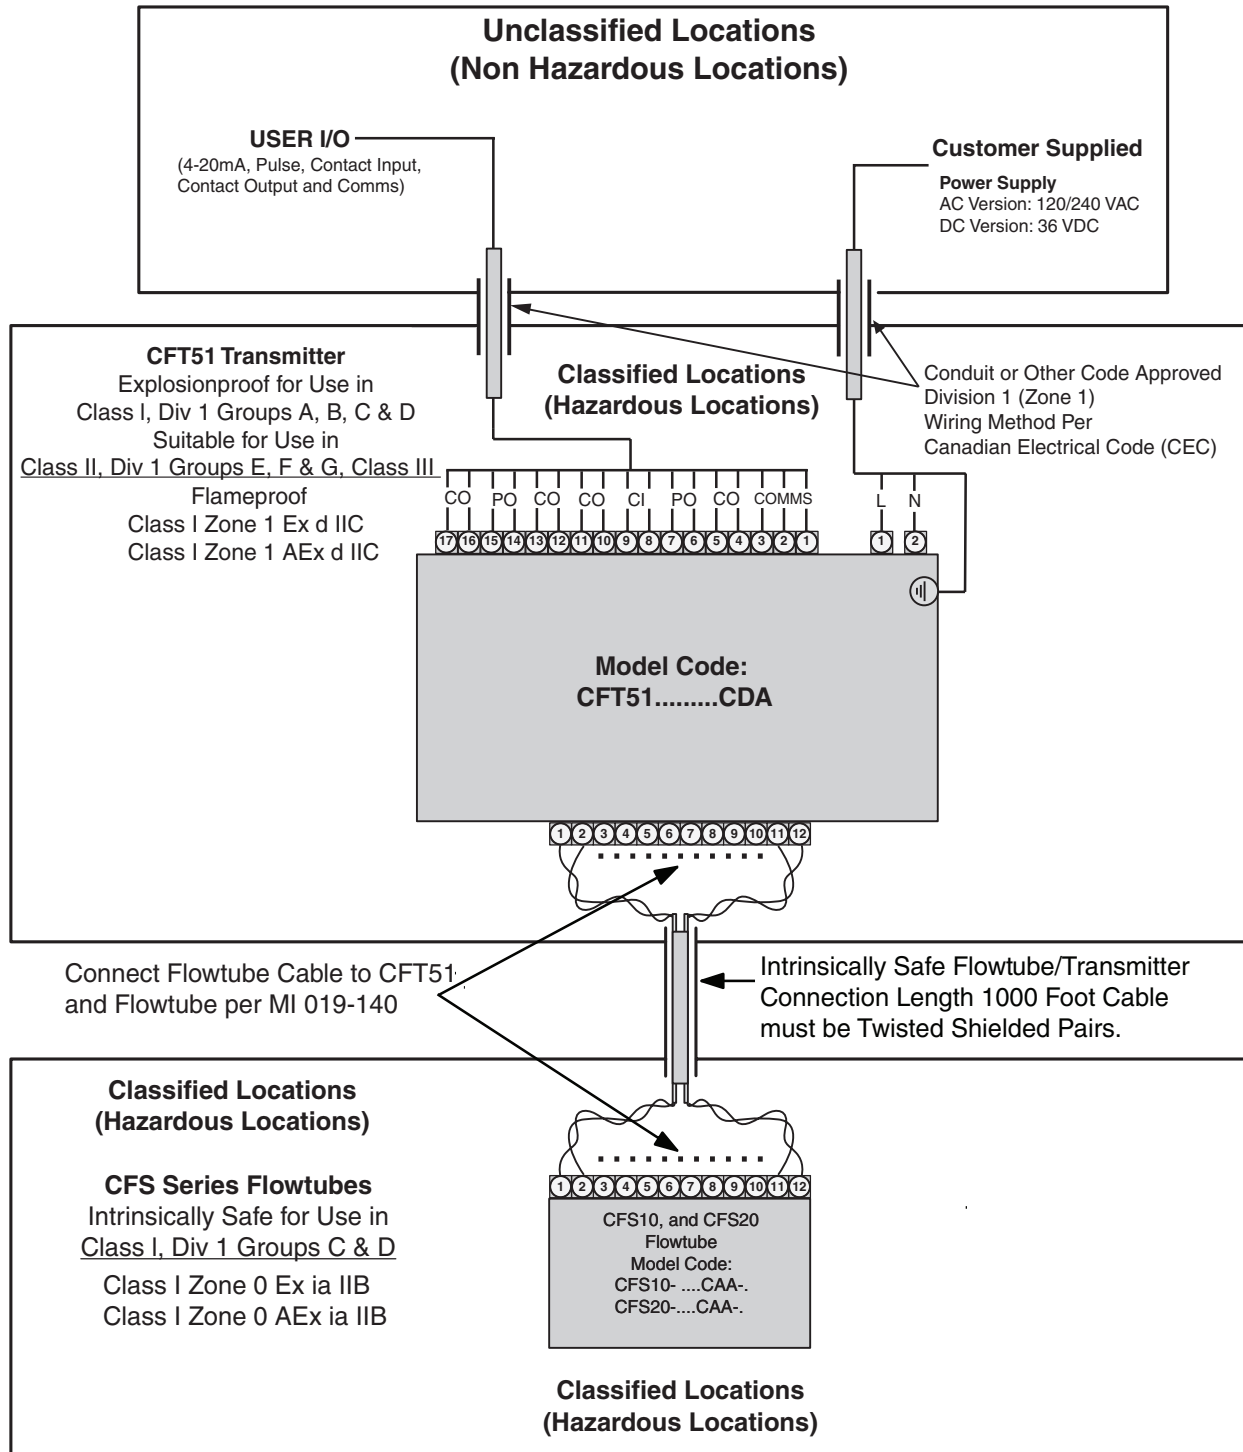

Figure 7. Flowtube in Class I, Division 1 (Intrinsic Safety) and Transmitter in Class I, Division 1 (Explosionproof) Area
1. Figure 7 must not be revised without prior CSA approval.